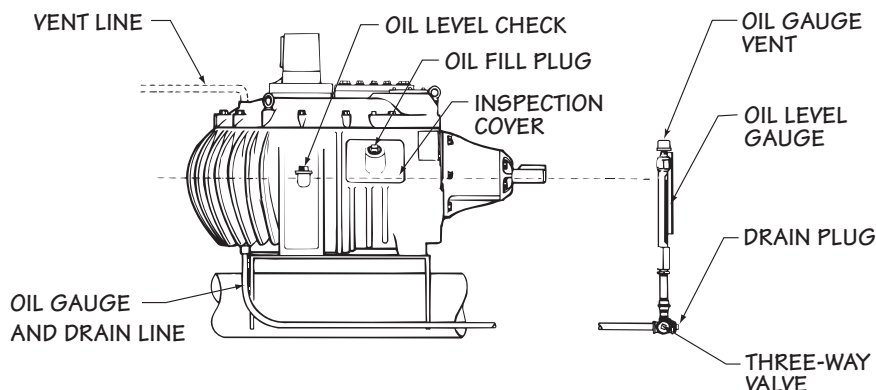

Figure 2 Service Fittings
Drain the Geareducer oil by removing the drain plug. See **Figure 2** for location. If equipped with an external dipstick/oil level gauge, remove the drain plug at that location, and drain the entire system.
After inspection is complete, fill the Geareducer with **18.5 gallons** (70 liters) of oil. See **Figure 2** for location. If the Geareducer is equipped with an external dipstick/oil level gauge an additional 3 to 4 quarts of oil will be required. Be certain that the vent on the Geareducer (and external dipstick/oil level gauge, if present) is not plugged. Verify that the gauge/drain line is full and that there aren't any leaks at the connections.
1. Install oil at the opening at the Geareducer inspection cover until it reaches the level of the Full mark on the Geareducer case and at the oil level gauge. See **Figures 2** and **3**. Install plug.
The cooling tower has an external oil gauge and drain line equipped with a three-way valve below the oil level gauge. See **Figure 2**.